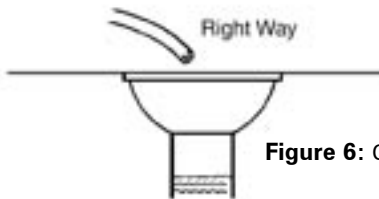

Figure 6: Correct air-gap installation.
**WARNING: Never connect drain line directly into a drain, sewer line or trap. Plumbing code requires installation to allow an air gap\* between the drain line and the wastewater to prevent the possibility of sewage back-siphoning into the conditioner. (See Figure 6.) Sewage backup can have harmful health effects.**